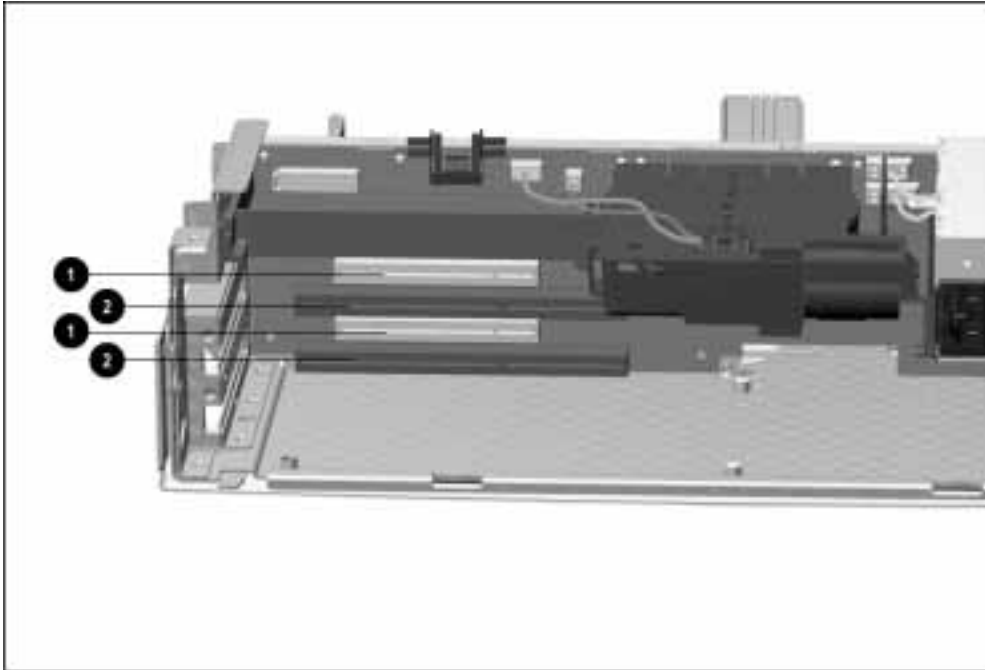

Figure 5-49. Expansion Board Slots
5. Select the slot into which the expansion board is to be inserted: PCI expansion boards are installed in the shorter slots ❶; ISA expansion boards are installed in the longer slots ❷ (Figure 5-49).